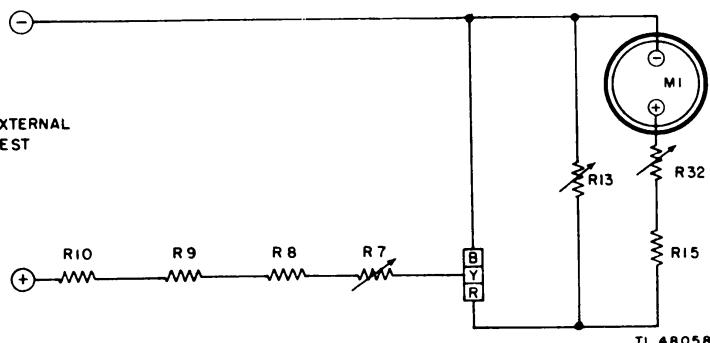

Figure 4. Circuit used for 60 to 300 volts a-c measurement.
d. A-c Voltmeter. The simplified schematic diagram in figure 4 shows the circuit used to make a-c voltage measurements from 60 to 300 volts. The a-c voltage measurements are available only at 1,000 ohms-per-volt sensitivity. A rectifier unit is used to convert the a-c voltage to d-c voltage to actuate the meter. This rectifier unit is connected so that current flows through the meter during one-half cycle of the a-c voltage. During the alternate half-cycle of voltage, the current bypasses the meter through one section of the rectifier unit. This half-wave rectification provides a means for making measurements of a-c voltages. Special correction scales are used on the meter to indicate the a-c voltages.